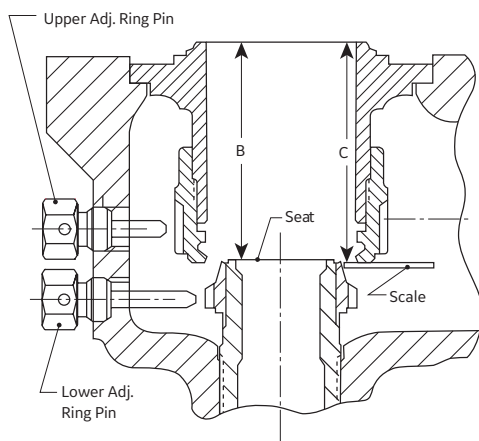
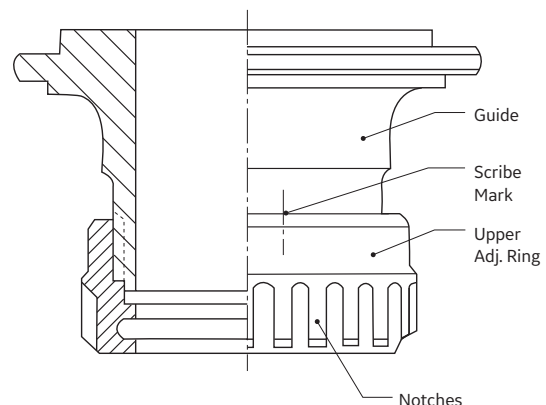

Figure 29: Guide - Bushing Seat Assembly
Figure 30: Upper Adj. Ring - Guide Assembly
6. Install the adjusting ring and guide assembly into the valve base such that the scribe marks will be visible from the valve outlet or an inspection port. Place a scale or other suitable thin flat metal object on the lower face of the upper adjusting ring and measure the overall length of the upper ring and guide assembly. Adjust the upper ring to the Dimension C (See Figure 29) recorded in Step 12 of Section XII.B., "Disassembly". Observe the marks made on the ring and guide and adjust the ring to align the marks (see Figure 30.)